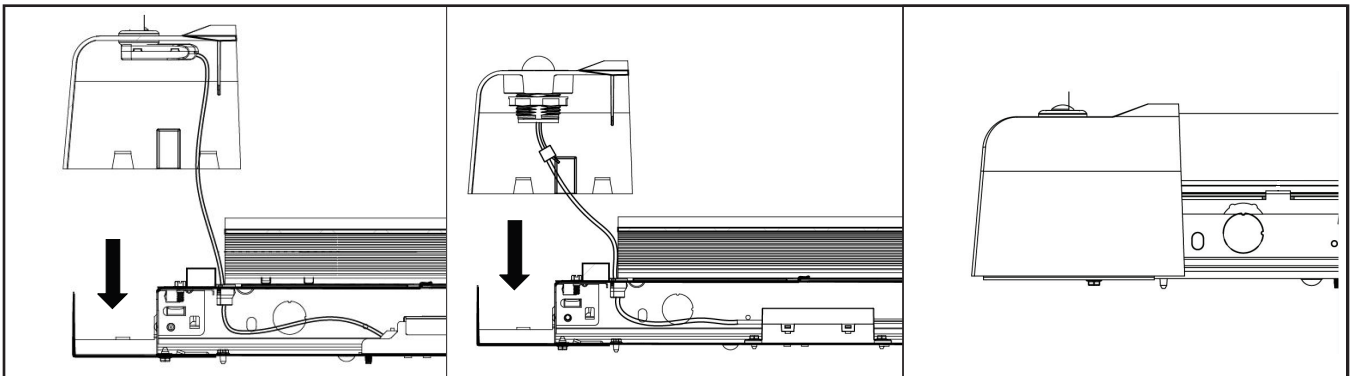

Figure 8.
6. If sensor is detached from sensor wire, reconnect properly install plastic endcaps and midcaps on endcap bracket (Figure 8). Properly connect sensor and route the wires.